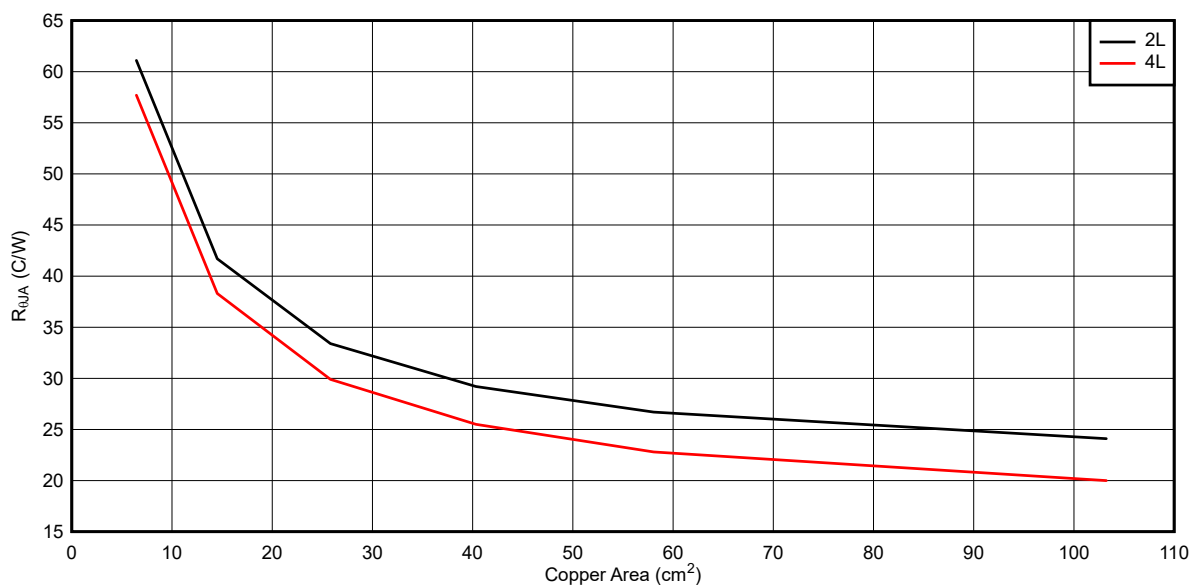
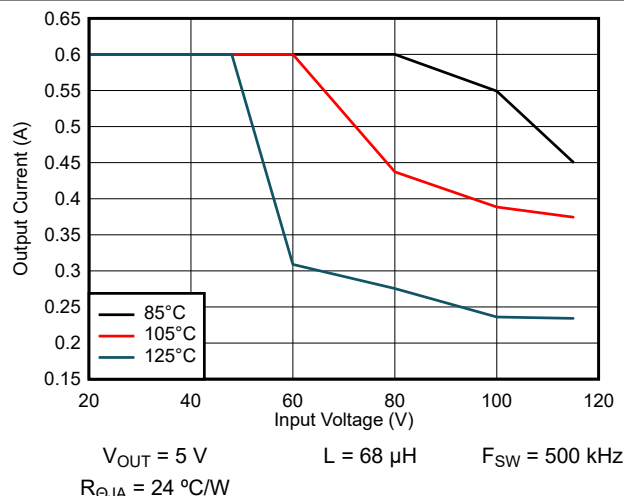
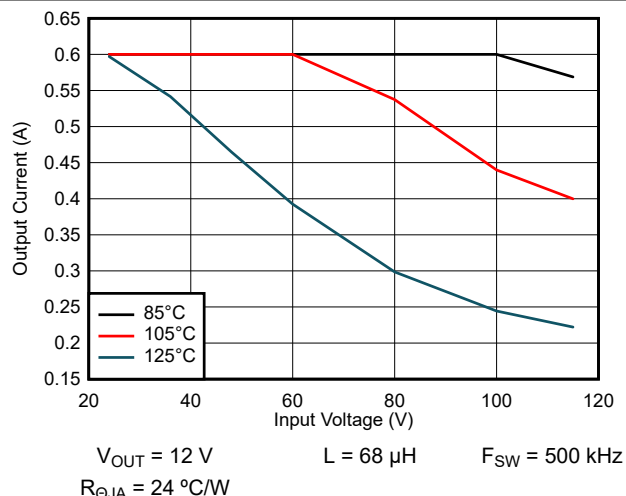

Figure 9-33. Typical $R_{\theta JA}$ Versus Copper Area
Figure 9-34. Maximum Output Current: $V_{OUT} = 5\text{ V}$
Figure 9-35. Maximum Output Current: $V_{OUT} = 12\text{ V}$
The LM516x-Q1 features a die attach paddle, or "thermal pad" (EP), to provide a place to solder down to the PCB heat-sinking copper. This provides a good heat conduction path from the regulator junction to the heat sink and must be properly soldered to the PCB heat sink copper. Typical examples of $R_{\theta JA}$ can be found in Figure 9-33. The copper area given in the graph is for each layer. The top and bottom layers are 2-oz copper each, while the inner layers are 1 oz.
The data in Figure 9-34 and Figure 9-35 can be used as a guide to determine the maximum output current for a given set of conditions. The particular conditions under which these graphs were taken are indicated in the notes below each graph.
Remember that the data given in Figure 9-33 through Figure 9-35 is for illustration purposes only, and the actual performance in any given application depends on all of the previously mentioned factors.